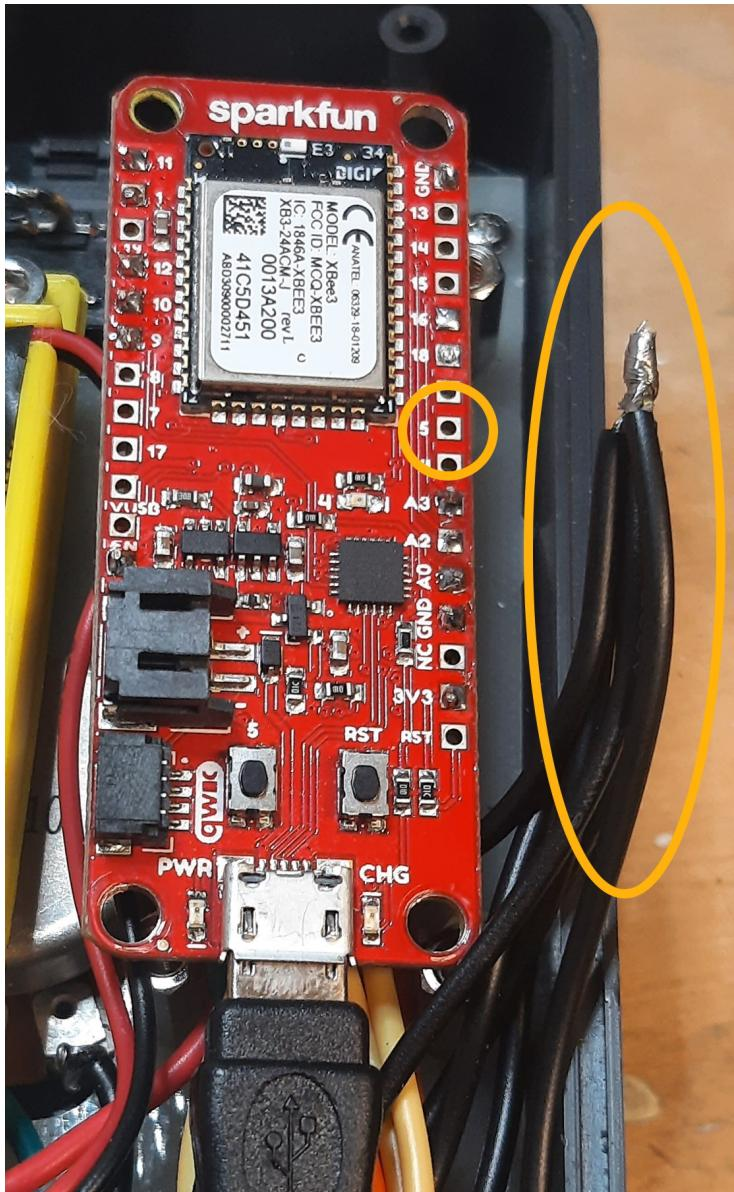

Figure 7. Slide switch connections.
6. Remove the heatshrink from the bundle of black wires that were under the Sparkfun board and add and solder the black wire from the slide switch (Figure 7)